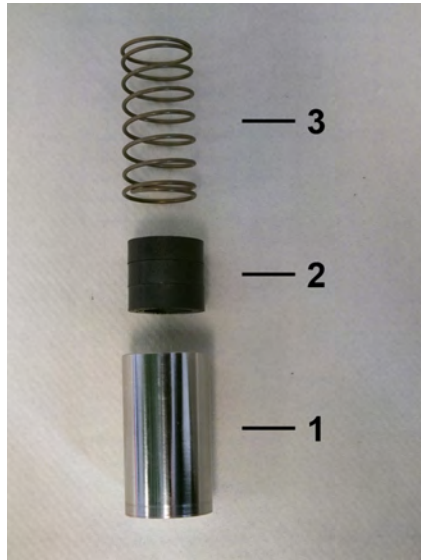

Fig. 55: Inner parts
6. Insert spring (Fig. 55/3) with magnets (Fig. 55/2) into the float (Fig. 55/1) ensuring proper magnetic pole orientation (north pole toward device outlet).